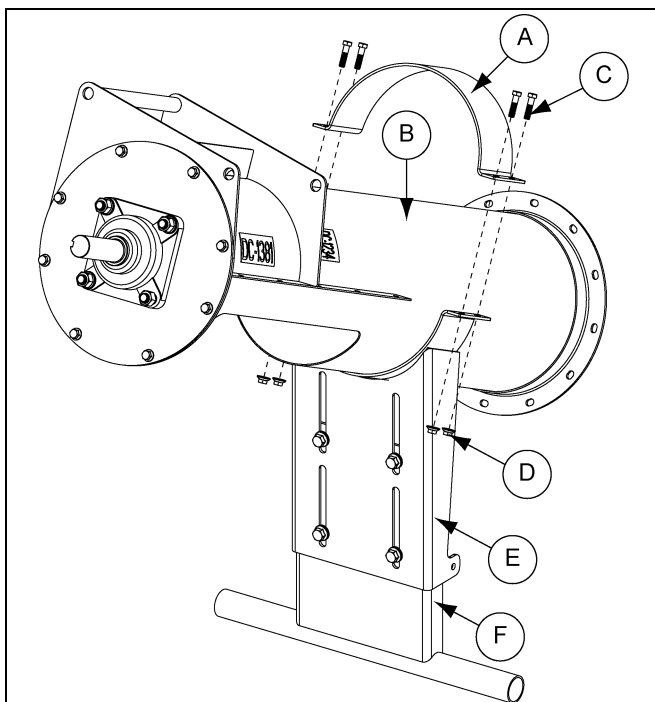

Figure 4B
1. Place stand weldments (E and F) and half band (A) around tube (B) and secure together with 3/8" flange bolts (C) and flange nuts (D). (See Figure 4B.)